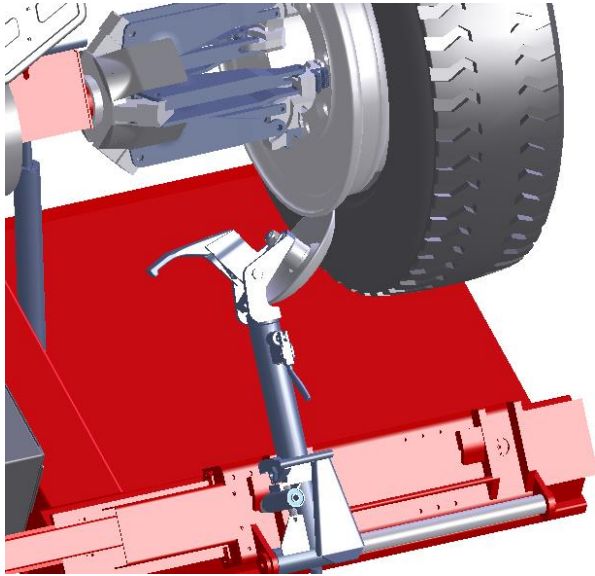
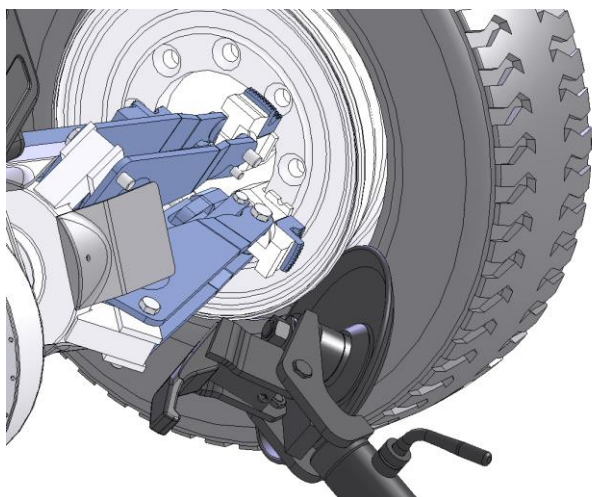

Fig. 14
Fig. 16
- Break the bead at the front part of the tyre and pushing on the bead, lubricate the rim flange and the bead with suitable grease (Fig. 14). Repeat the operation on the back.
- Clamp the wheel on the self-centering chuck and raise it until the rim flange touches the bead breaking tool. Using the control and selector deflate the tyre and begin the bead breaking operation (Fig. 16 or Fig. 14). Use the pedal and selector to gradually advance the bead breaking roller turning the spindle continuously.